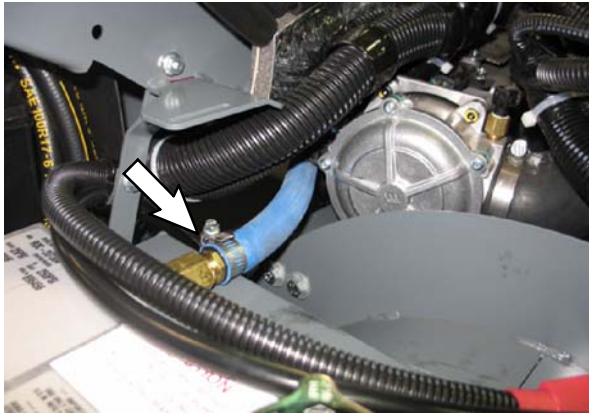
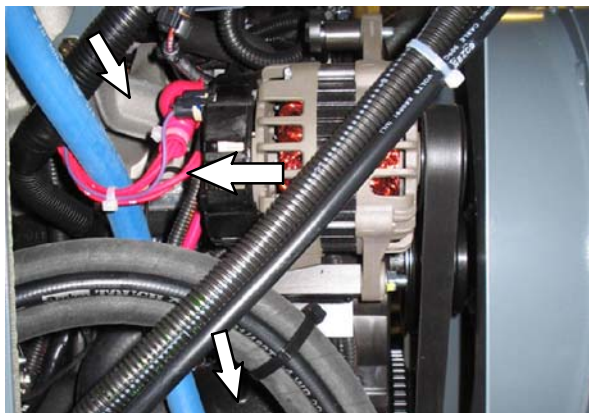
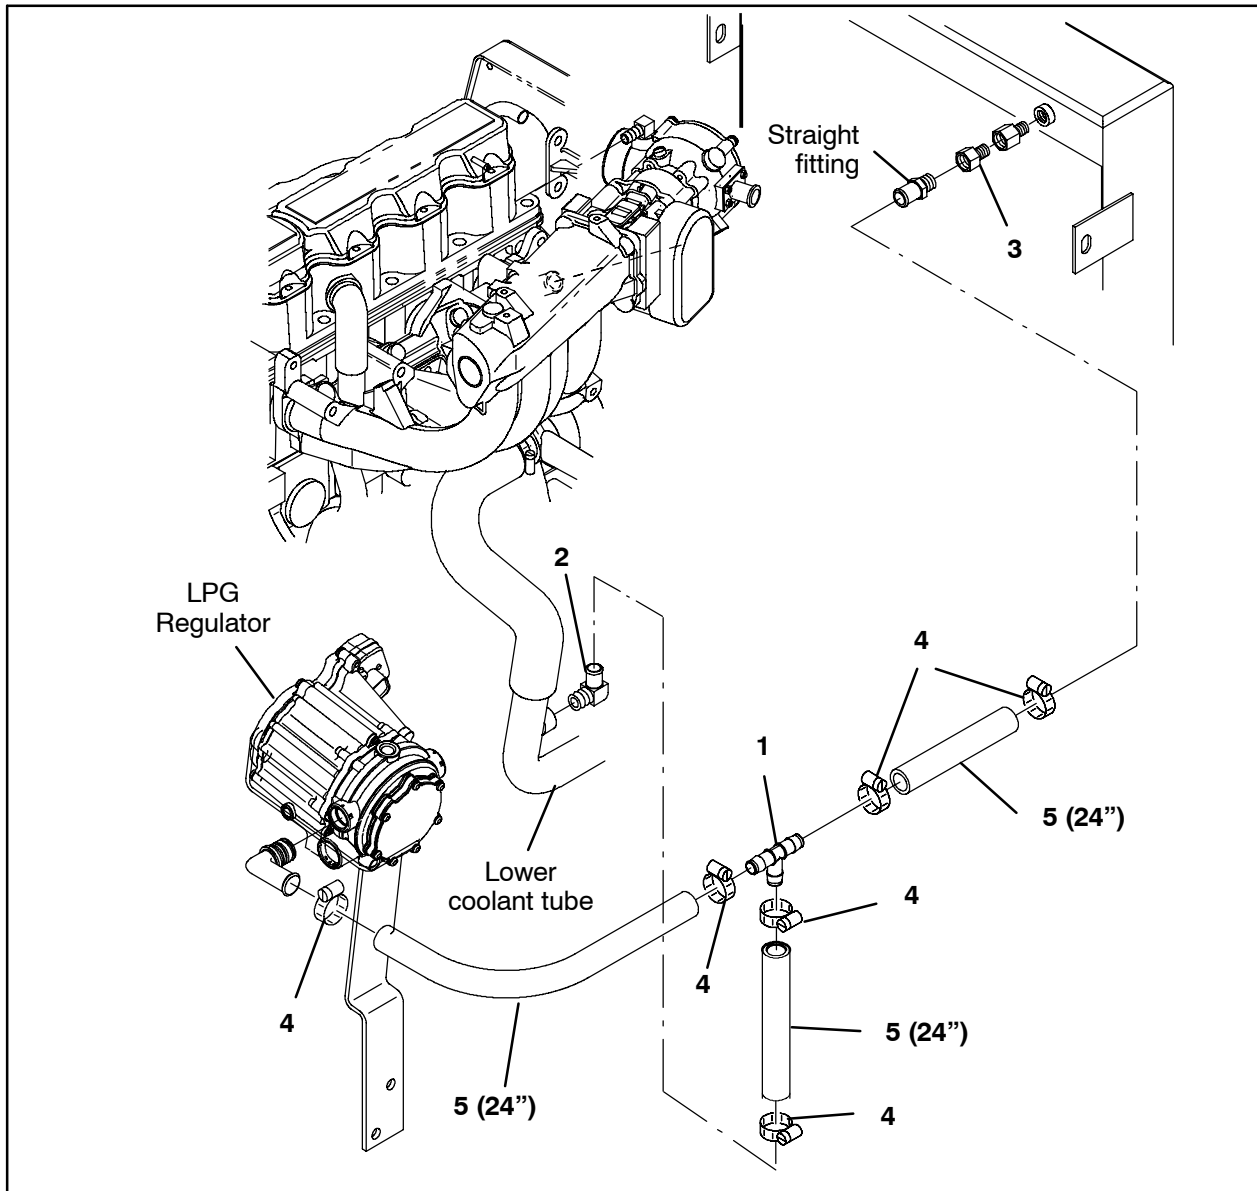

FIG. 2
FIG. 4
FIG. 6
4. Install the 90° brass fitting (2) onto the lower coolant tube. Refer to Fig. 3 and Fig. 6.
5. Install the adapter fitting (3) into the straight fitting left on the radiator. Refer to Fig. 6.
6. Install the saved straight fitting into the adapter fitting (3). Refer to Fig. 6.
7. Cut three 24" sections of hose from the 96" hose (5).
8. Use a hose clamp (4) to connect the three 24" hoses (6) to the plastic t-fitting (1). Refer to Fig. 6.
9. Use a hose clamp (4) to connect one 24" hose (6) to the straight fitting installed in the radiator. Refer to Fig. 2 and Fig. 6.
10. Use a hose clamp (4) to connect the one 24" hose (5) to the LPG regulator. Refer to Fig. 4 and Fig. 6.
11. Route the 24" hose (5) down through the wires connected to the alternator, along the engine, and down to the lower coolant tube. Refer to Fig. 4.
12. Use a hose clamp (4) to connect the 24" rubber hose (5) to the 90° brass fitting (2) on the lower coolant tube. Refer to Fig. 5 and Fig. 6.